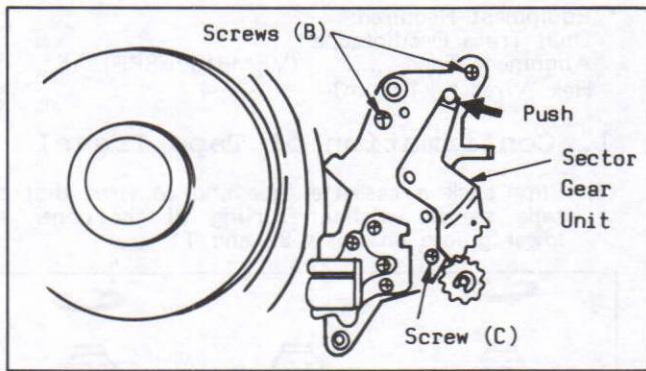

Fig.M12
- (5) Remove 2 Screws (B). Then remove Screw (C) while slightly pushing on the Sector Gear Unit to reveal Screw (C) as shown in Fig. M12. Then remove the A/C Head Base Unit.